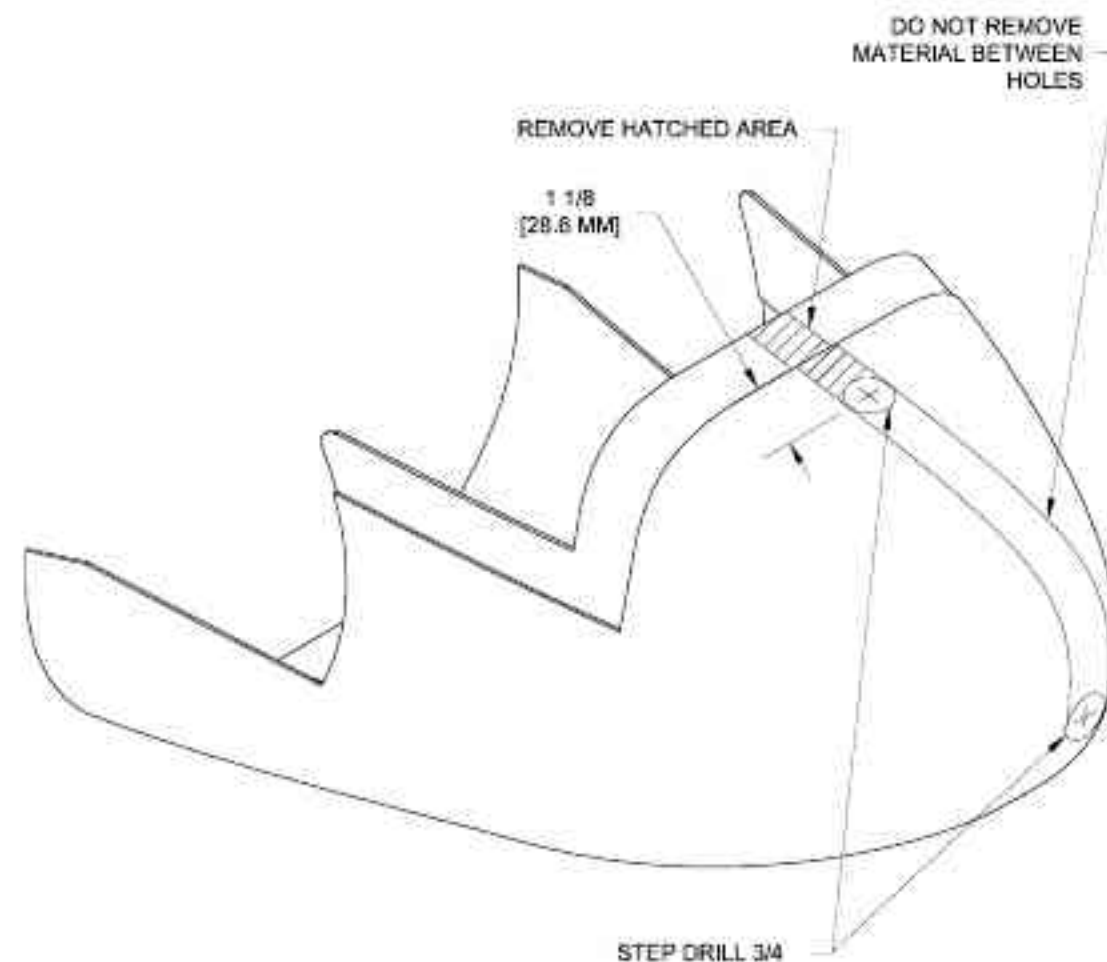

FIGURE 3:
Step 4: Drill two holes with a step drill bit in the F-1294B-1 as shown in Figure 3.
Step 5: Trim the excess material from the edges of the F-1294B-1 and as shown in Figure 3. Cut close to the scribe lines, then use a sanding block to finish the edge to the scribe line.